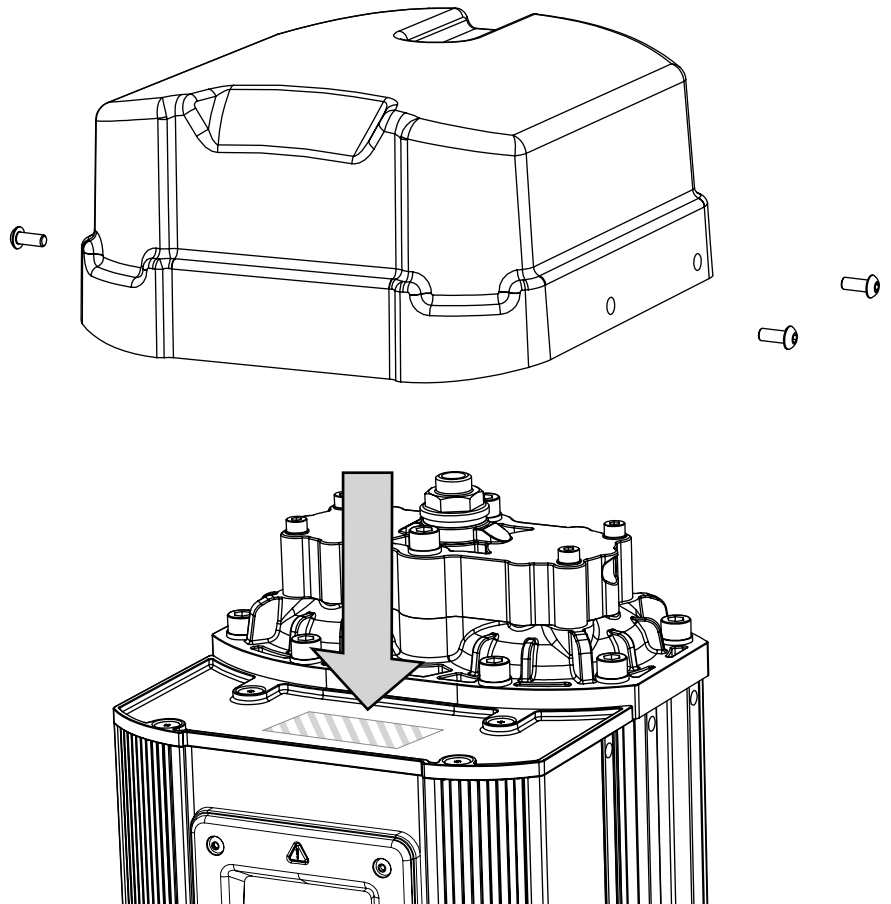

Figure 1.
2. Remove the 4x M5 to release the top cover. (See Figure 1)
3. Place a magnet on the marked area in Figures 1 & 2 (re-set area) for 8 - 10 seconds until the controller resets. (See Figure's 1 & 2)